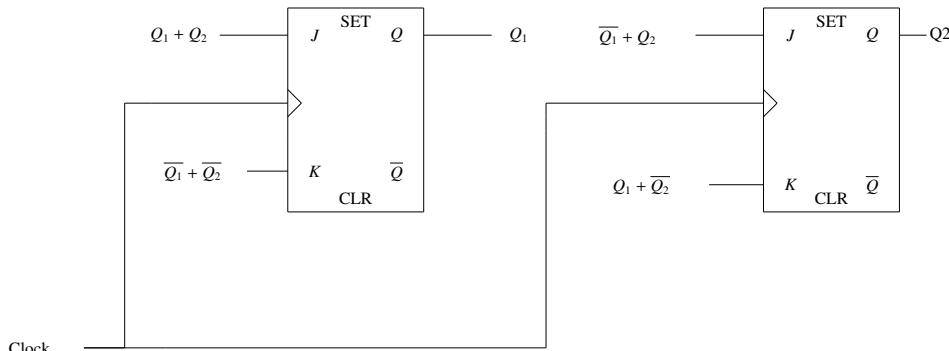

Fig. 5.20
20. A 2-bit synchronous counter using two J-K flip flops is shown in Fig. 5.20. The